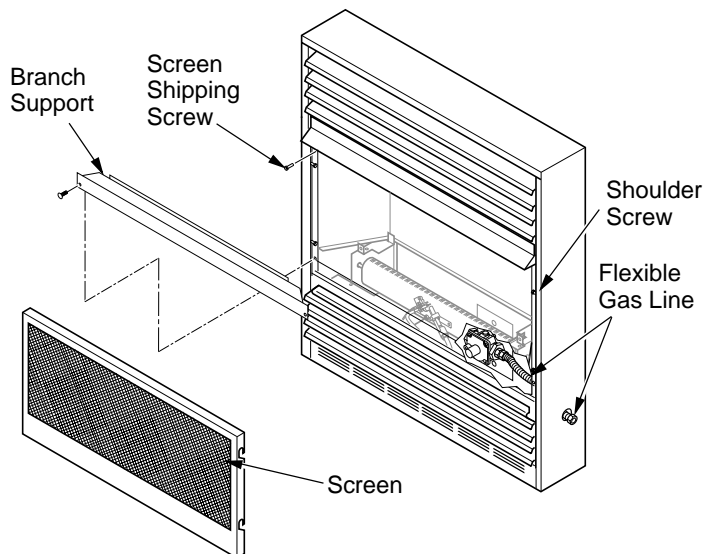

Figure 25 - Removing Log Base Assembly From Fireplace
2. Remove screws that attach branch support to fireplace (see Figure 25). Carefully lift up branch support and remove from fireplace (see Figure 25).
NOTICE: Most building codes do not permit concealed gas connections. A flexible gas line is provided to allow accessibility from the fireplace (see Figure 25). The flexible gas supply line connection to the equipment shutoff valve should be accessible.